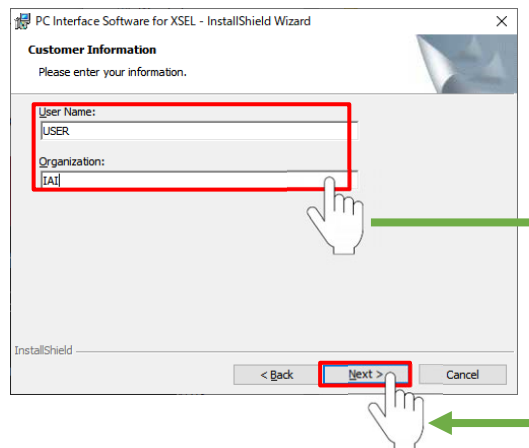

Fig. 1.9 User Information Registration Window
- 7) The user information registration window (Fig. 1.9) will be displayed. Enter user information and click **Next**.